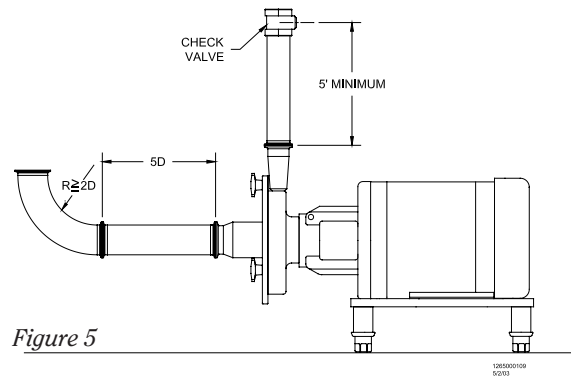

Figure 5
- Avoid elbows in the suction line if possible. When necessary they should be located 5 pipe diameters away from the pump inlet, and have a bend radius greater than 2 pipe diameters (*Figure 5*).
- Check valves in discharge line should be a minimum of 5 ft. away from the pump outlet (*Figure 5*).